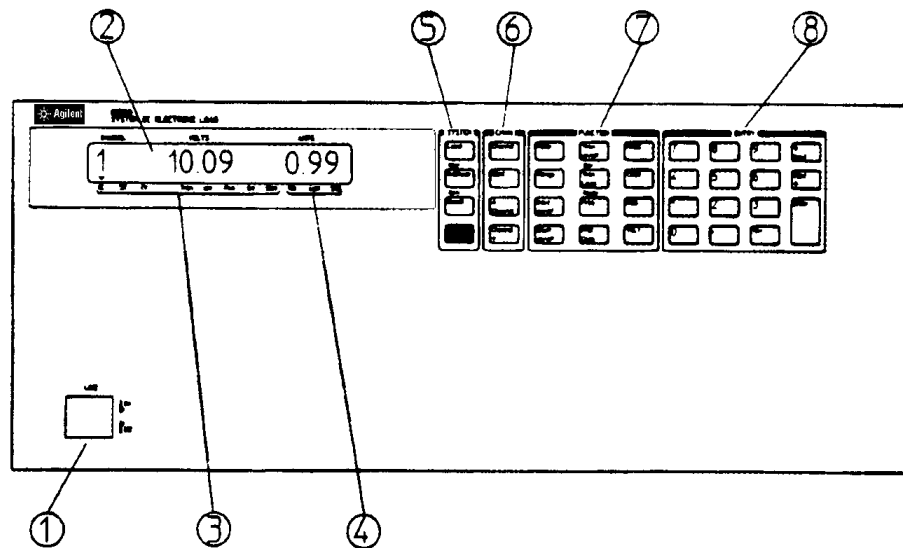

Figure 4.1. Agilent 6050A Front Panel
The Multiple Electronic Load can be programmed locally using the controls and indicators on the front panel. As shown in Figure 4-1, the front panel's controls and indicators include a 12-segment LCD display and a keypad having four groups of keys (SYSTEM, CHAN, FUNCTION, and ENTRY). Table 4-1 gives a brief description of each control and indicator.
2 LCD Display	Normally displays the selected input channel number and the actual voltage and current at that input, for example, "1 10.09 0.99" as shown in Figure 4-1. When programmed from the front panel, the channel number and the function being programmed are displayed. For example, "1 CURR 1.000" indicates that the channel 1 CURR function is set to 1.00 amperes.
<p>3 Electronic Load Status Annunciators</p>	<p>CC-Indicates the selected channel is in the constant current (CC) mode. Note that Figure 4-1 illustrates that channel 1 is in the CC mode (CC annunciator is on).</p> <p>CR-Indicates the selected input channel is in the constant resistance (CR) mode.</p> <p>CV-Indicates the selected input channel is in the constant voltage (CV) mode.</p> <p>Tran-Indicates that transient operation is enabled for the selected input channel.</p> <p>Unr-Indicates that the selected input channel is unregulated (applies only in the CC mode and in the middle and high ranges of the CR mode).</p> <p>Prot-Indicates when channel protection features (CC, OV, OP, OT, etc.) are active on any channel.</p> <p>Err-Indicates that remote programming error(s) have occurred.</p> <p>Shift-Indicates that the shift key, bottom key (blue) in SYSTEM group, was pressed.</p>